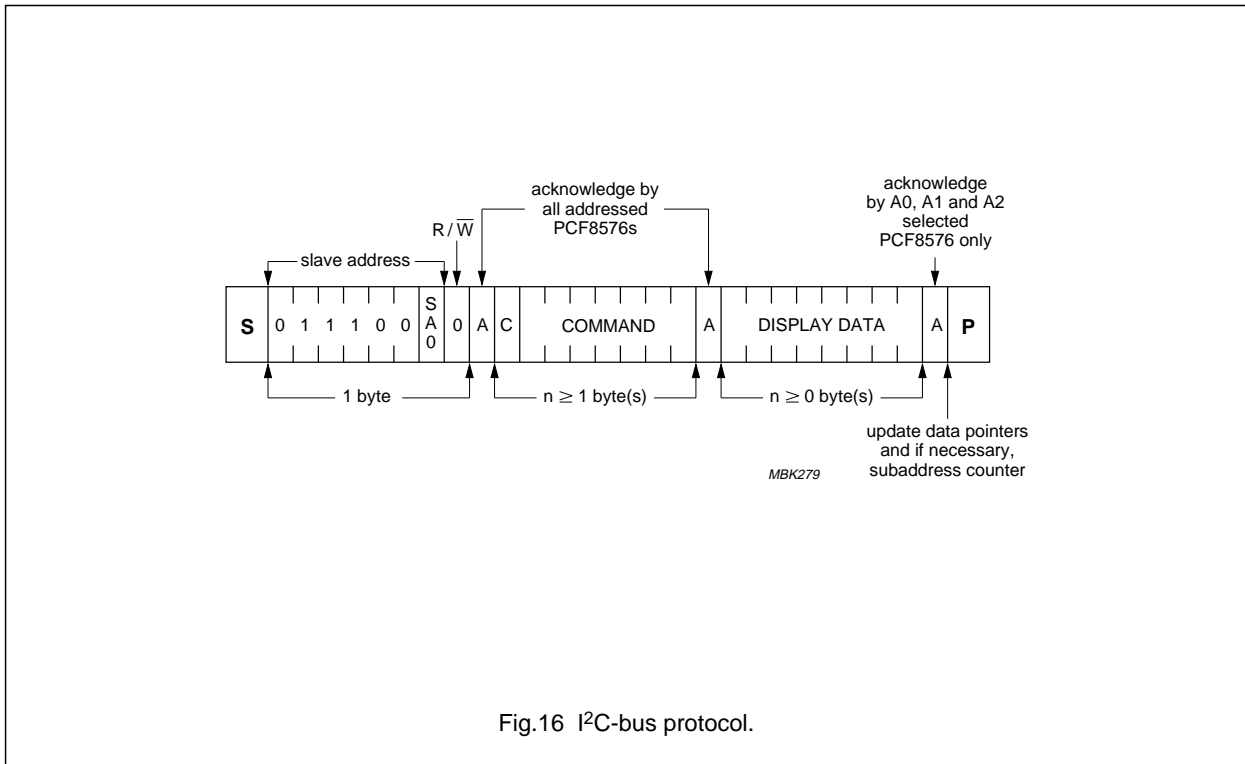

Fig.16 I2C-bus protocol.
The I2C-bus protocol is shown in Fig.16. The sequence is initiated with a START condition (S) from the I2C-bus master which is followed by one of the two PCF8576 slave addresses available. All PCF8576s with the corresponding SA0 level acknowledge in parallel with the slave address but all PCF8576s with the alternative SA0 level ignore the whole I2C-bus transfer.